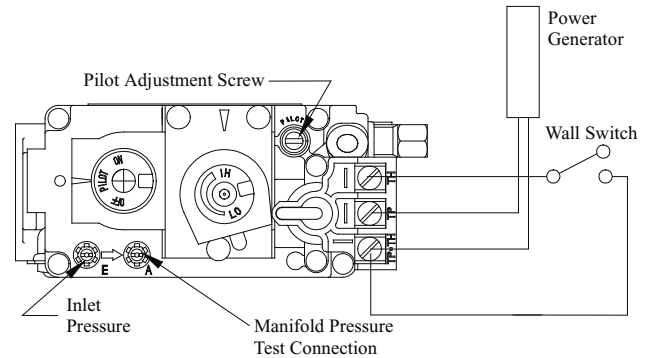

Figure 25. Sit Nova 820 gas valve.
- Have the fireplace installation inspected yearly, including a visual check of the vent system, the burner and the pilot flame. For convenience a 1/8" manifold pressure tap is supplied on the gas valve for a test gauge connection. See Figure 25.
1. Locate Pilot Adjustment Screw. (See figure 25.)